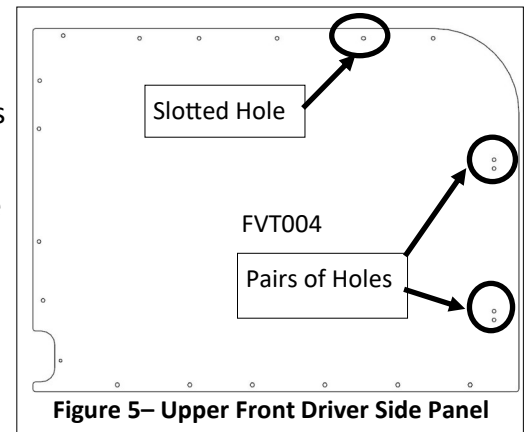

Figure 5– Upper Front Driver Side Panel
- i. Align the two holes on the L-brackets with the pair of holes on the right side of the panel (Figure 5). Make sure that the L-brackets are on the smooth side of the panel and the ends point to inside the van.